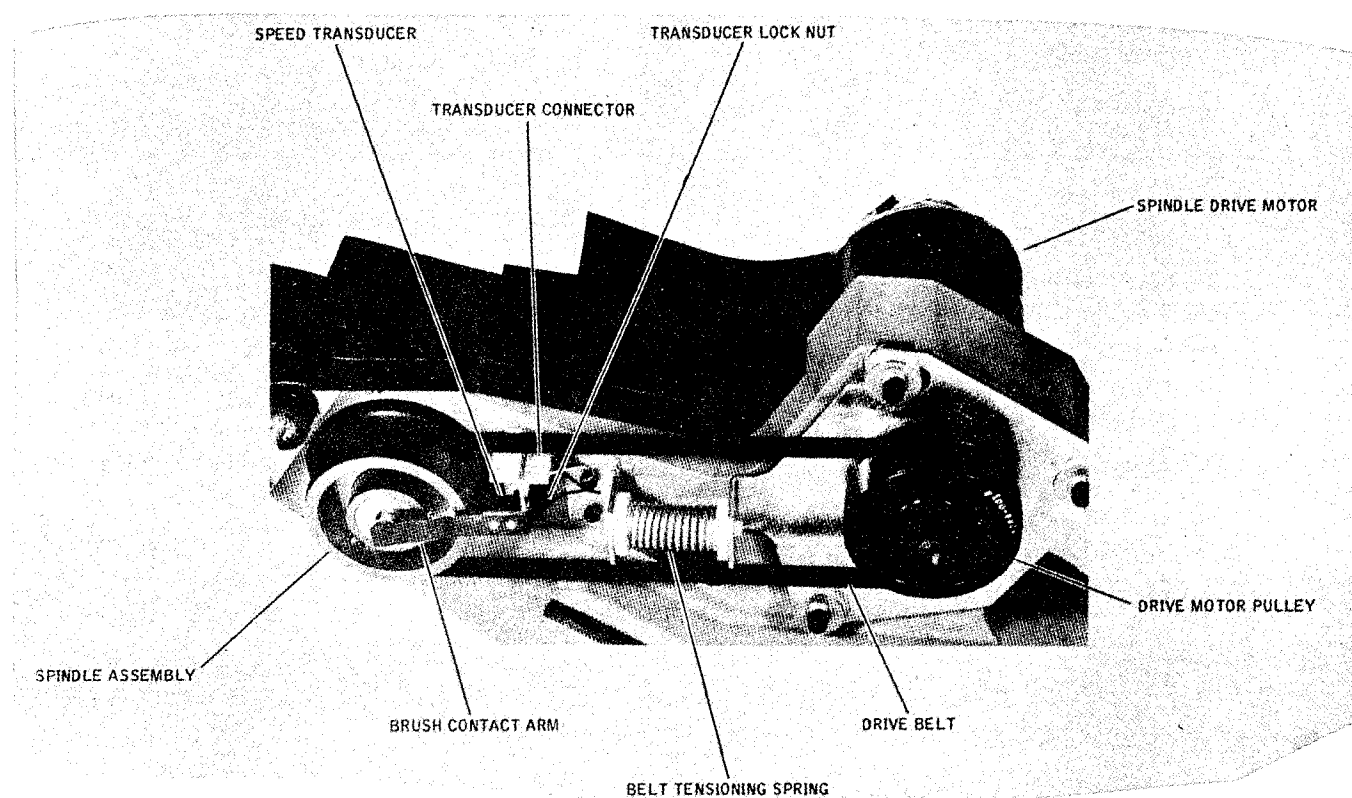

Figure 3-13. Spindle Drive Component Checks
3. Check the resistance between the spindle contact arm (Figure 3-13) and the spindle. Resistance must be less than one-half ohm. If the resistance is too high, replace the grounding brush (refer to paragraph 4.2.18).
4. Inspect the spindle drive belt (Figure 3-13) for fraying or other damage. If damage or belt stretch is apparent, replace the drive belt (refer to paragraph 4.2.6).